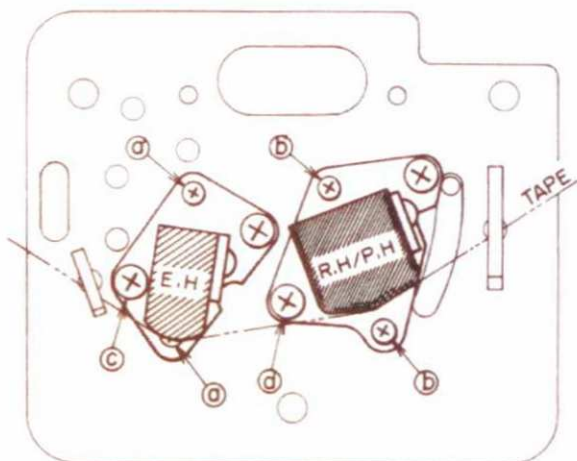
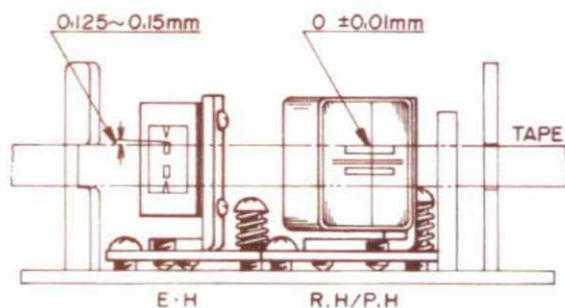

Fig. 2
Fig. 3
(A) Adjustment of Head Height (See Fig. 2 and Fig. 3)